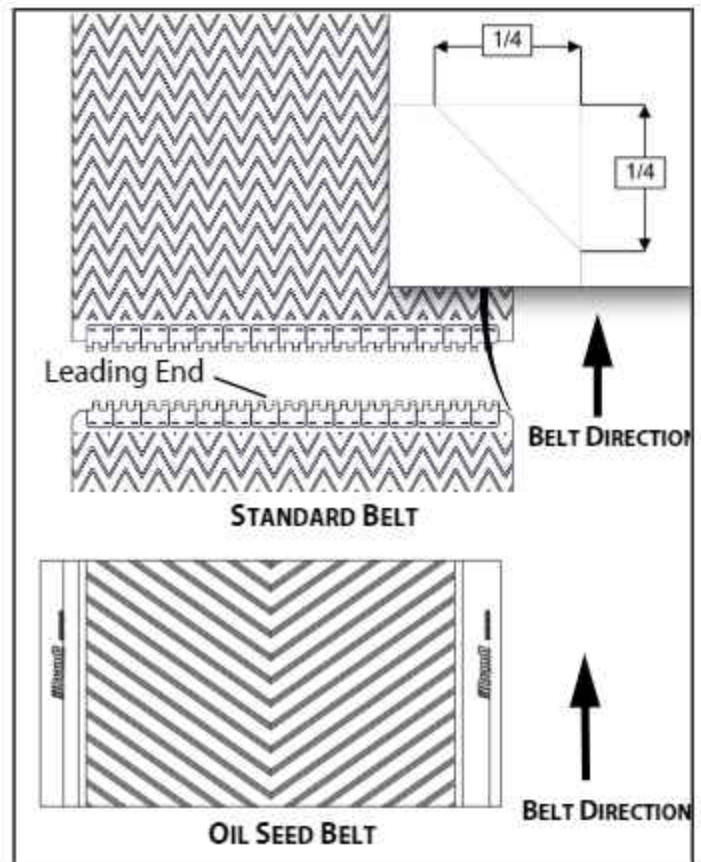

FIG. 3-74. Belt Direction
3. Unroll the belt and trim the corners of the leading end as show in Fig. 3-74. Make sure to trim only the end shown. Fig. 3-74 shows the direction of travel of the belt.